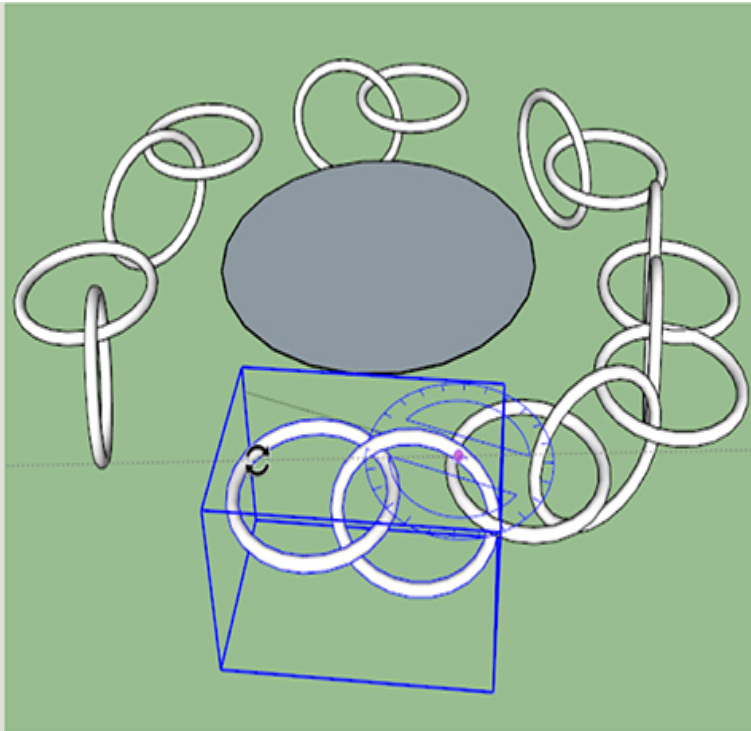

Figure 3-41 Move the components together to form a connected bracelet.
8. Move the components together to connect the links (Figure 3-41). You'll need to rotate them in the process.